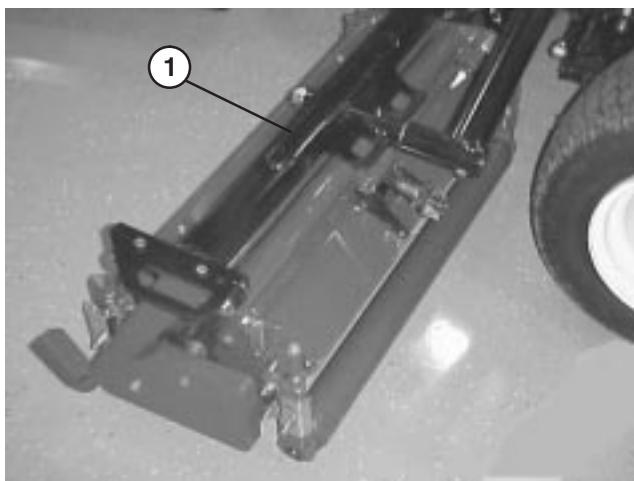
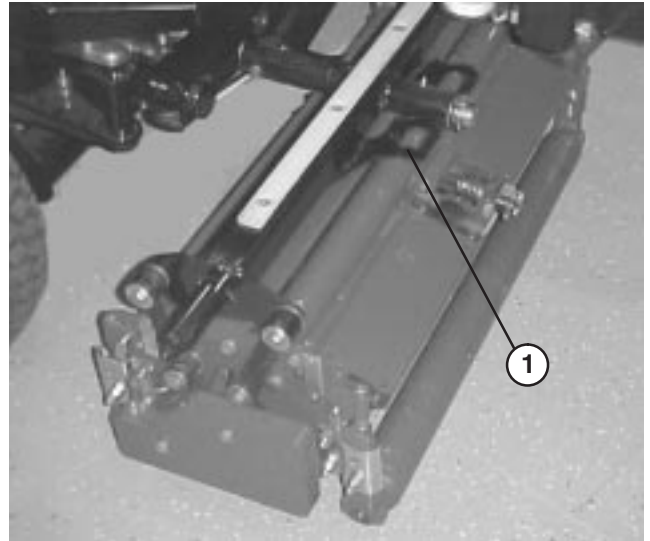
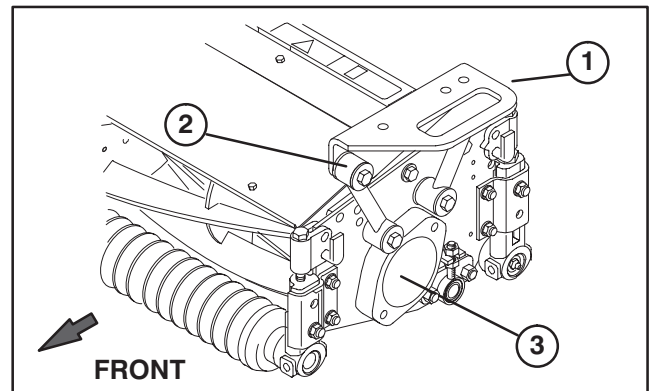

Figure 16
Figure 17
Figure 18
MOUNT CARRIER FRAMES TO CUTTING UNITS (Fig. 16 – 18)
2. Position a front carrier frame (Fig. 16) onto each front cutting unit. Align mounting holes with mounting links as shown in figure 18.
3. Position rear carrier frame (Fig. 17) onto rear cutting unit, aligning mounting holes with mounting links as shown in figure 18.
4. Secure each mounting link to carrier frame with a 3/8-16 x 2-1/4" lg capscrew, (2) flatwashers and a locknut, as shown in figure 18. Position a washer on each side of link when mounting. Torque to 31 ft-lb.
3. Remove shipping plug from bearing housings on remaining cutting units (Fig. 18).